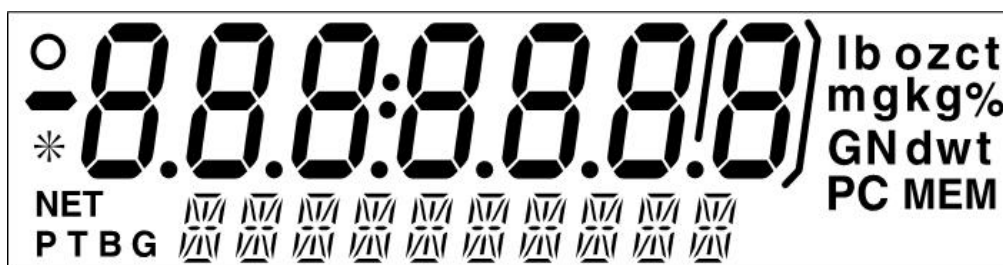

Figure 4-1. LCD Full Display for Discovery Balance.
1. Turn the balance on by pressing ON/ZERO Off, all segments are enabled and displayed briefly, then followed by a software revision number. See Figure 4-1 for full display.
On the rear of the balance, the 9-pin female subminiature “D” connector COM 1, is provided for interfacing with other devices. Figure 4-1 is a diagram of the RS232 connector with pin holes numbered. Table 4-2 indicates the respective pin functions.